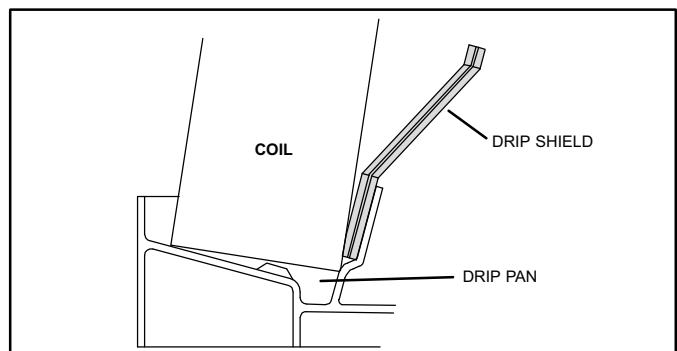

Figure 8. Downflow Drip Shields
5. Install the downflow drip shield at the base of the coil as illustrated in figure 8.